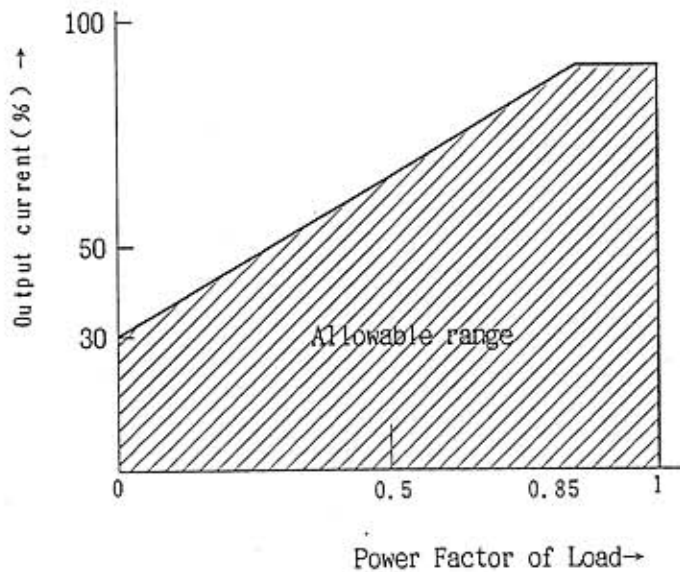

Figure 6
(C) If the load of the equipment is a coil or other low power factor device ($\cos \theta < 0.85$), the power loss of the internal power amplifier of the equipment increases and the equipment is driven into the overload state. Thus, the allowable output current of the equipment is limited by the power factor of factor of the load. For the allowable range, see Figure 6.